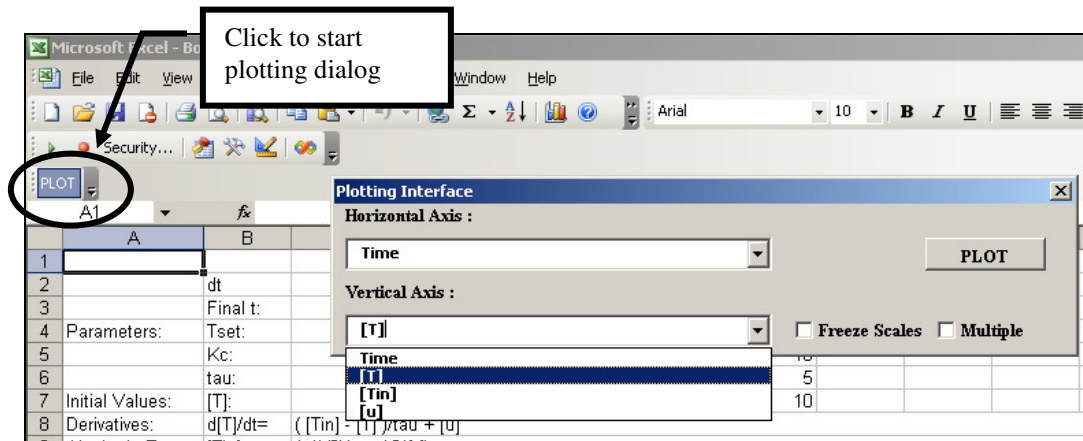

Figure 15. Plotting dialog
- Click on the PLOT button in the toolbar. A window should pop out (see Figure 15). Select the variables in the x-axis and the y-axis. Turning on the “Freeze Scales” checkbox will disable the automatic rescaling of the axes. This is particularly useful when you want to observe how the plot changes accordingly with the changes in the parameter and initial values, specially via the scrollbars.